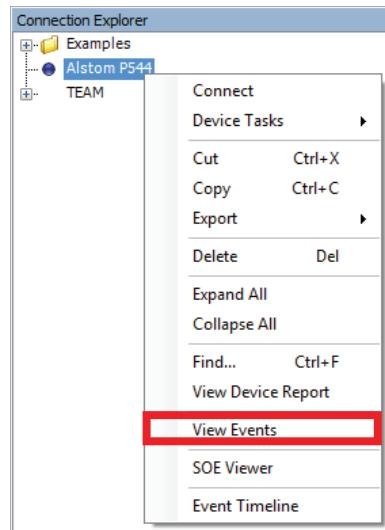

Figure 63 View Events
- Step 11. To view the events, right-click on the device in the Connection Explorer and select **View Events**, as shown in *Figure 63*.